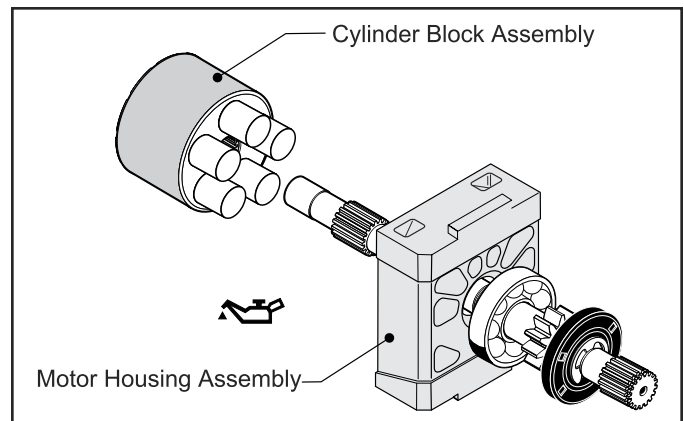

Fig. 28, Motor Cylinder Block Assembly
10. Align splines of the Cylinder Block Assembly and the Motor Shaft; then, press together until pistons are positioned against Motor Housing Thrust Bearing. (Fig. 28)
Motor Housing Assembly is installed so that dimples are showing (facing up). (Fig. 28)